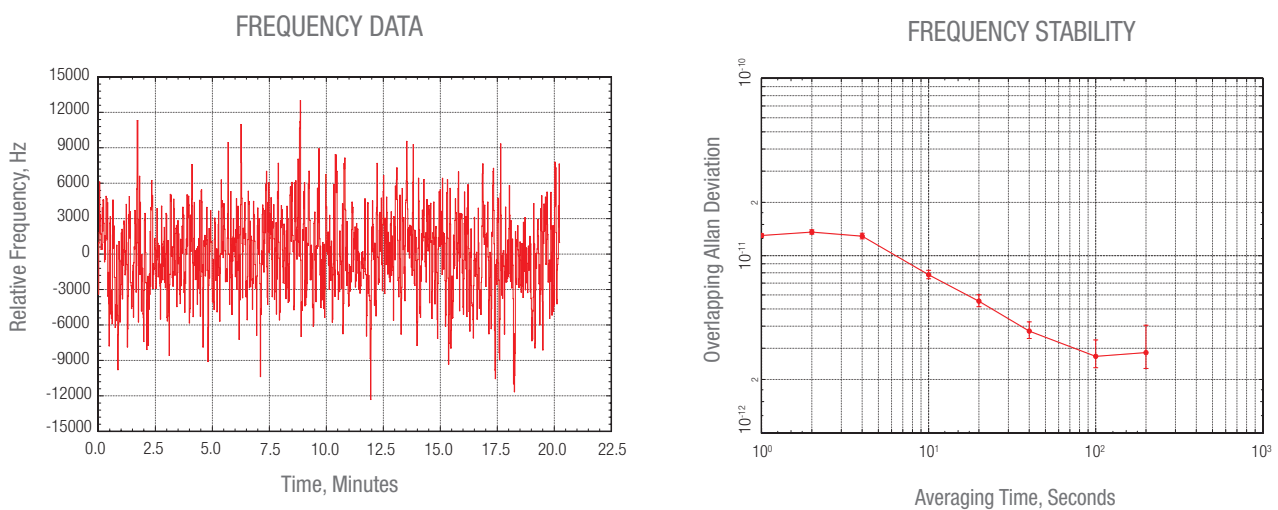

Fig. 2: Left: Raw data, Right: Allan Deviation
Finally, the SmartComb was used in two labs at the Czech Metrology Institute (CMI, Prague) under the supervision of Dr. Petr Balling. A homebuilt Iodine-stabilized Helium-Neon laser was set to the f-transition, and later to the d-transition as a second test. The SmartComb was referenced to a stable Rubidium-clock, which is disciplined to GPS for long-term stability and traceability to the SI second. The offset from the recommended value was identical to that measured with Dr. Balling's Ti:Sapphire frequency comb from Menlo Systems. The fifth metrology laser to be measured was a $^{13}\text{C}_2\text{H}_2$ (acetylene)-stabilized DFB laser at 1542 nm. The Erbium femtosecond laser in the SmartComb has fundamental light at this wavelength, so simply plugging in the fiber resulted in a strong beat that could be counted as shown in **Fig. 2**. The recommended value for such a stabilized laser is 194 369 569 384 kHz [3]. The calibration showed a tiny offset of -1.918(207) kHz from this value in literature, thereby demonstrating the SmartComb capabilities and the fiber laser performance.